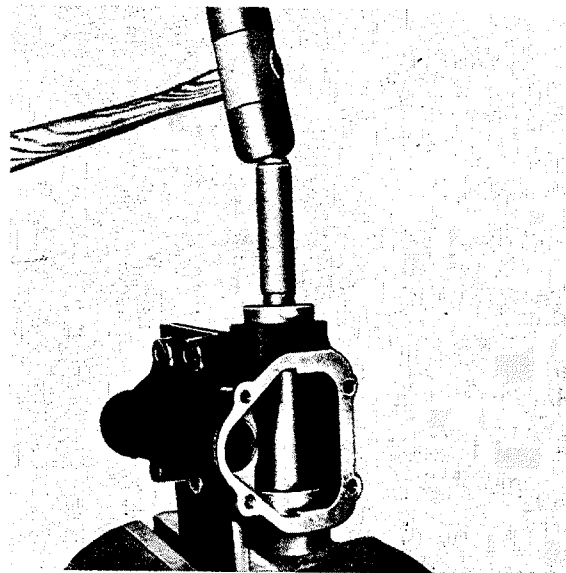

Fig. L 4/9
24. Now install the lower ball retainer and slide the steering worm together with the steering nut into the housing from above; incline the steering worm at an angle when sliding it into the housing (Fig. L 4/10).